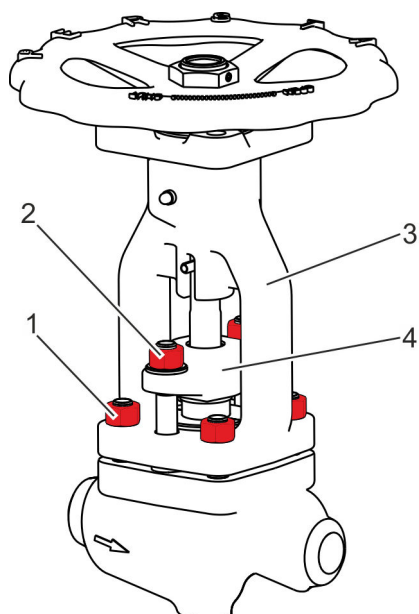

Fig. 32: Screwing on nuts
- 41. Loosely screw the nuts (Fig. 32/1) with the stud bolts into the body.
- 42. Fit the gland follower flange (Fig. 32/4) onto the stud bolts in the body.
- 44. Loosely screw together the nuts (Fig. 32/2) with the stud bolts into the body.